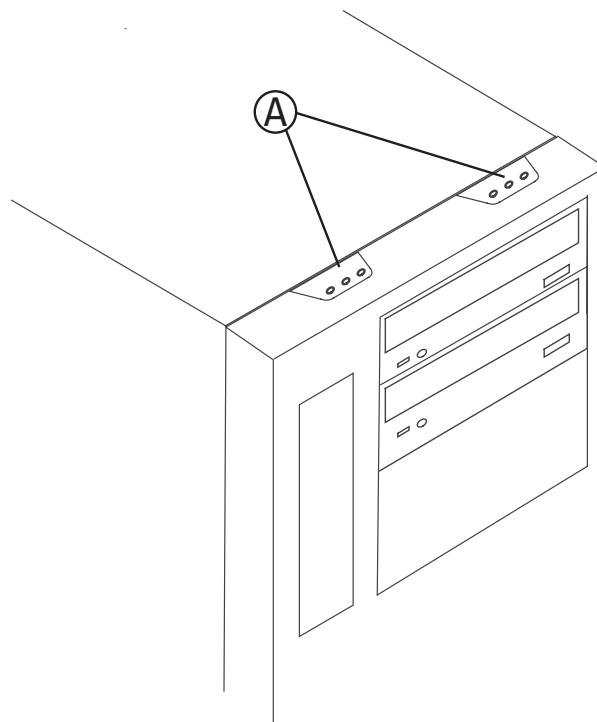

Figure 6. Bezel assembly
1. Unlock the two plastic tabs on top of the bezel assembly by pressing lightly (see Figure 6, point A).